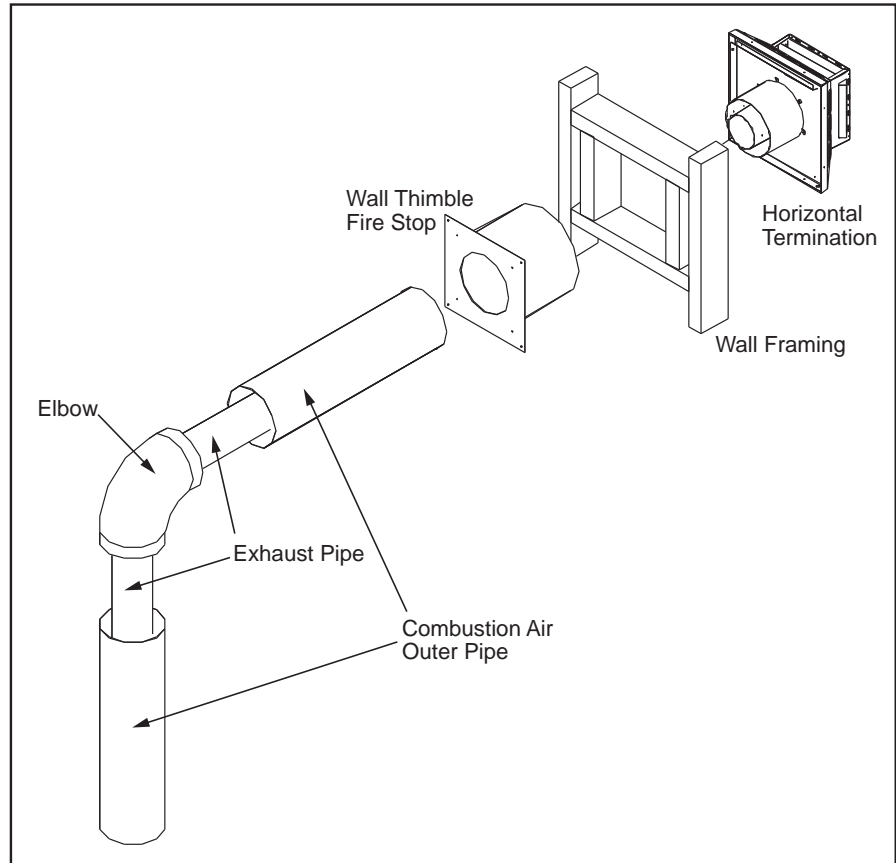

Figure 43: Horizontal Vent Termination
Step 3. With the pipe in the correct position and attached to the fireplace, mark the wall for a 10 inches (25.4 cm) x 10 inches (25.4 cm) square hole (see Figure 43). The center of the hole should match the center line of the horizontal pipe. Cut and frame the hole in the exterior wall where the vent will be terminated. If the wall being penetrated is made of a non-combustible material (i.e. masonry or concrete) a 7 inches (17.8 cm) hole is acceptable.